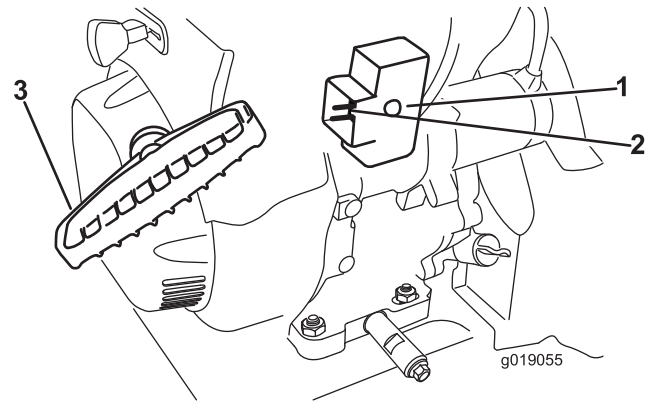

Figure 26
7. Start the machine by pulling the recoil starter or pressing the electric-starter button (Figure 26).